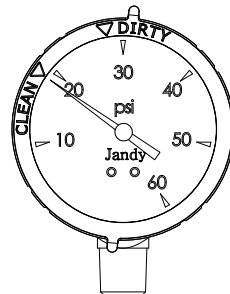

Figure 5. Pressure Gauge with Clean/Dirty Snap Ring
9. After the pressure gauge has stabilized, turn the bezel ring so that the arrow next to the word “CLEAN” aligns with the needle of the gauge. See Figure 5. As the filter cleans the water, and the cartridges begin to clog the pressure begins to increase. When the needle of the pressure gauge aligns with the arrow next to the word “DIRTY” on the bezel, it is time to clean the filter, see Section 6.3. This indicates an increased pressure of between 10 and 12 psi above original starting pressure. Ensure pump speed remains the same when recording “CLEAN” and “DIRTY” pressure.